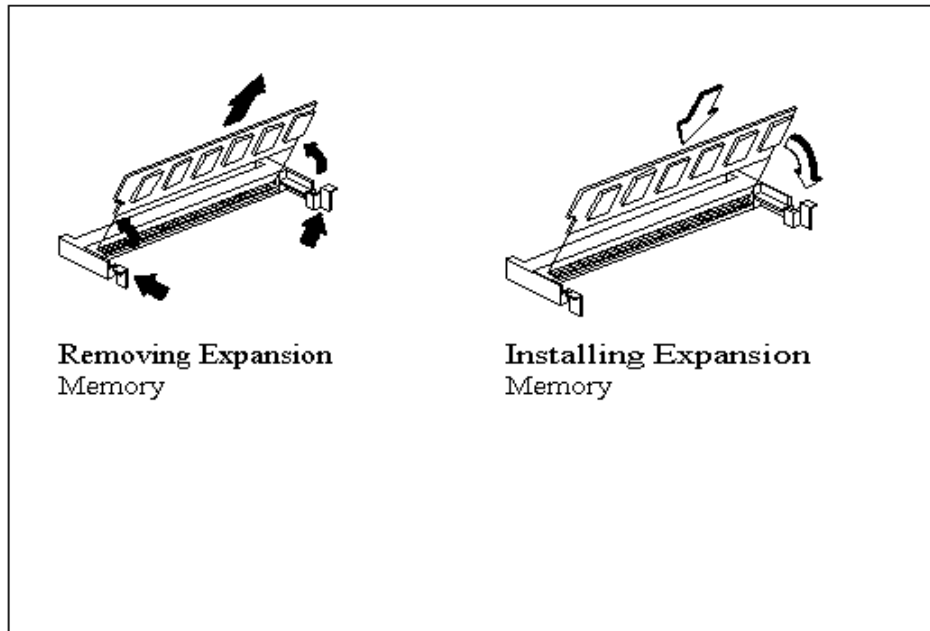

Figure 6-8 Memory Expansion Removal/Replacement
5. To remove a memory module, first release the slot locks located on each side of the Expansion Memory Connector to release the DIMM. Then pull the memory module out (refer to Figure 6-8).